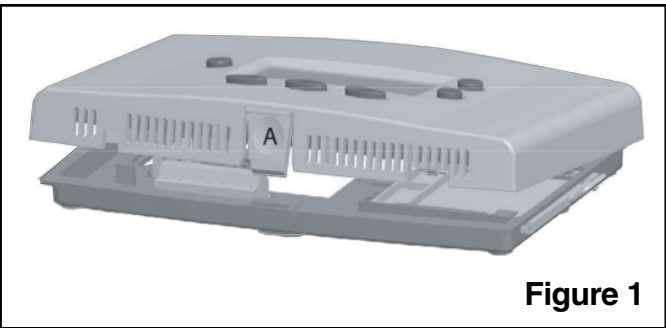

Figure 1
3. Separate the control from the mounting base to expose mounting holes by pressing the release button A on the bottom of the control with the thumb of one hand while gripping the subbase by the mounting holes with the other hand. Lift out and up. See Figure 1.
11. Reinstall the control on its mounting base by aligning the control at the top of the mounting base. Swing the control downward and gently press the bottom of control into position until latch button A engages. See Figure 1.